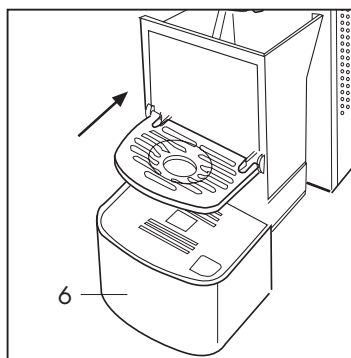

Fig. 25
Empty the capsule container and rinse it. Clean the drip tray and the grid to remove residue of water and coffee. When it is clean, reinsert the drip tray with the capsule container and put the beaker (13) back correctly in its seat (**Fig. 25**)